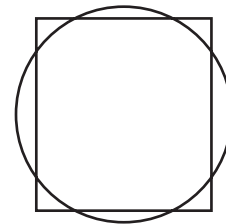

Fig. 6-8
1. Create a new drawing. Draw a circle and a rectangle as illustrated in Fig. 6-8. Use the **RECTANG** command to create the rectangle. Then enter the **ERASE** command and try to erase one line of the rectangle. At another location in the drawing, create another rectangle, but this time use the **LINE** command. Try to erase one line of the second rectangle. What is the difference? Do not save the drawing.